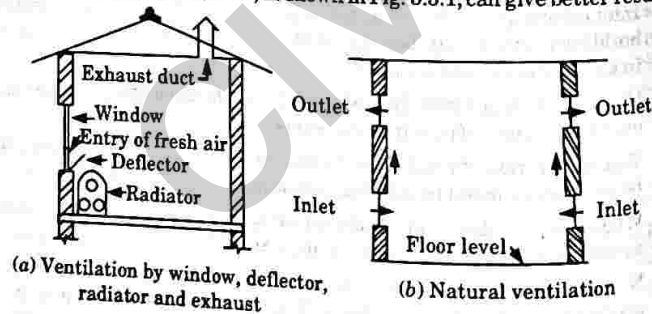

Fig. 5.3.1.
- c. It is found that the window ventilation with a combination of radiator, deflector and exhaust, as shown in Fig. 5.3.1, can give better results.